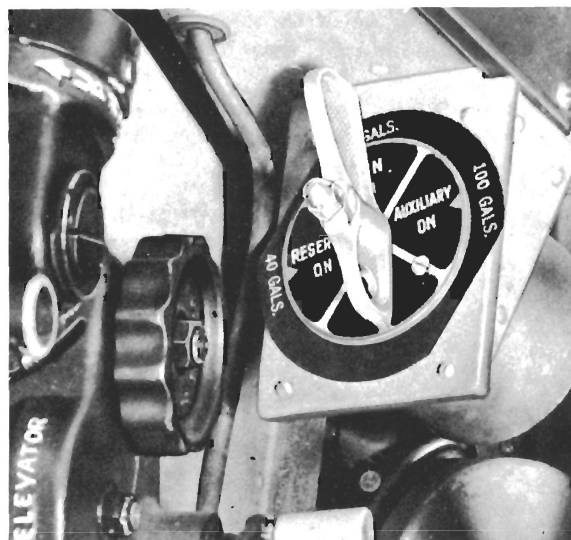

Figure 16—Fuel Selector Valve
2. To operate on belly tank, control switch (figure 35-22) must be in the "ON" position, and the fuel selector valve (figure 16) must be in the "OFF" position. The external tank system is automatically turned off when the fuel selector cock is turned to any position other than "OFF" regardless of the position of the belly tank fuel control switch. (See figure 35-22.)